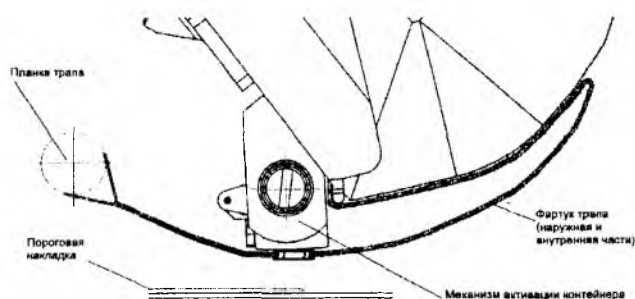
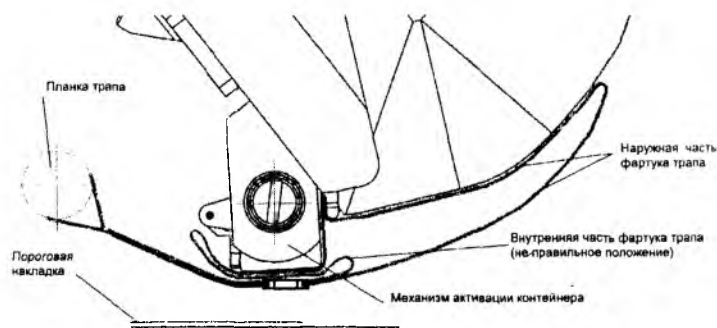

Figure 1 – The correct position of the apron of the slide
Figure 2 – The incorrect position of the apron of the slide
1. Perform Items 3, 4A (1)(2)(3)(4) of the AMM Task 25-61-05-900-801;
3. Perform Item 4A(6) of the AMM Task 25-61-05-900-801;
4. Perform Item 4A(11) of the AMM Task 25-61-05-900-801;
5. Make sure that on the details and nodes of the mechanism of activation of the container of the emergency slide (see. Figure 1) no deformation of the shaft, cracks, dents, burrs, traces of corrosion and scratches;
6. Make sure that the inside of the apron of the slide is in the right position, as shown in Figure 1. In the case of the wrong position of the apron (Figure 2) lay it according to Figure 1: